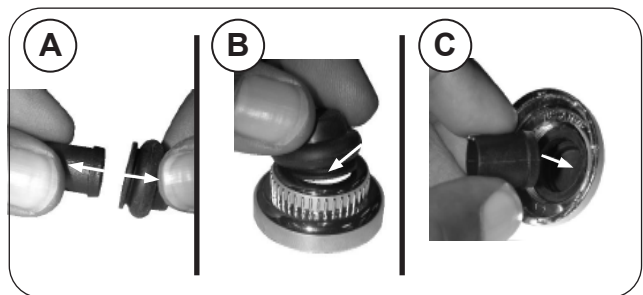

Fig. 35-3 Rubber cap replacement
1. Pull the rubber cap and the inner plastic sleeve apart (see Fig. 35-3, A).
2. Carefully insert the rubber cap into the igniter cover so it sits behind inner lip (see Fig. 35-3, B).
3. Turn the cap over and slide the inner plastic sleeve into the cap (see Fig. 35-3, C).